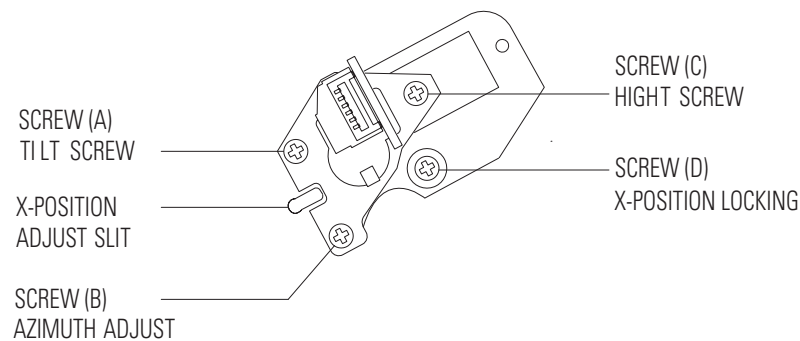

Fig. 3-7 Location of AC Head Adjustment Screw
- 3) Turn screw (C) clockwise or counterclockwise until the gap of lower tape edge and the lower edge of the control head is about 0.25mm. (Refer to Fig. 3-7 and 3-8)
- 3) Adjust screw (B) to achieve maximum audio level. (See Fig. 3-7)